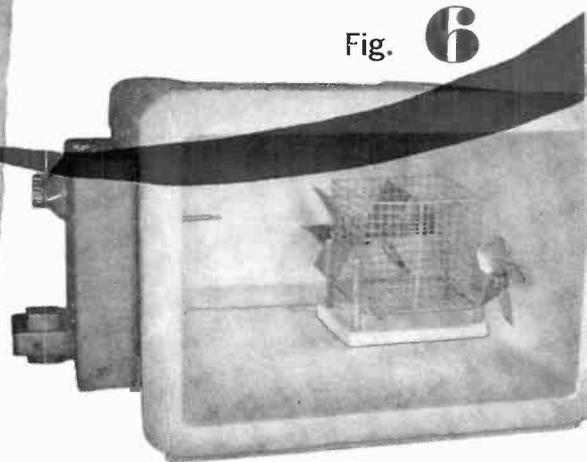
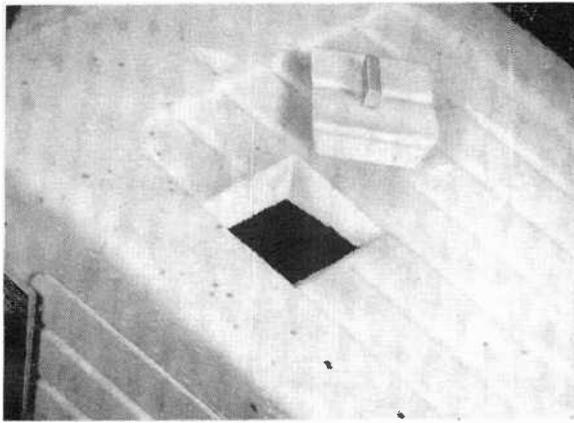

Fig. 6
Fig. 7
**Ice Basket.** The basket is an open-topped cube, about 3" on each edge, made of wire screen. Four  $\frac{1}{8}$ " round dowels are glued to the corners with epoxy and the dowels are used to secure the basket to a plywood or plastic plate which is secured to the base of the chamber as shown in Fig. 6. When the basket is in place, cut a small hatch directly over it as shown in Fig. 7. Note that the hatch is cut with sloping sides so that the cover cannot drop into the cooler. Any small handle can be used on the cover.